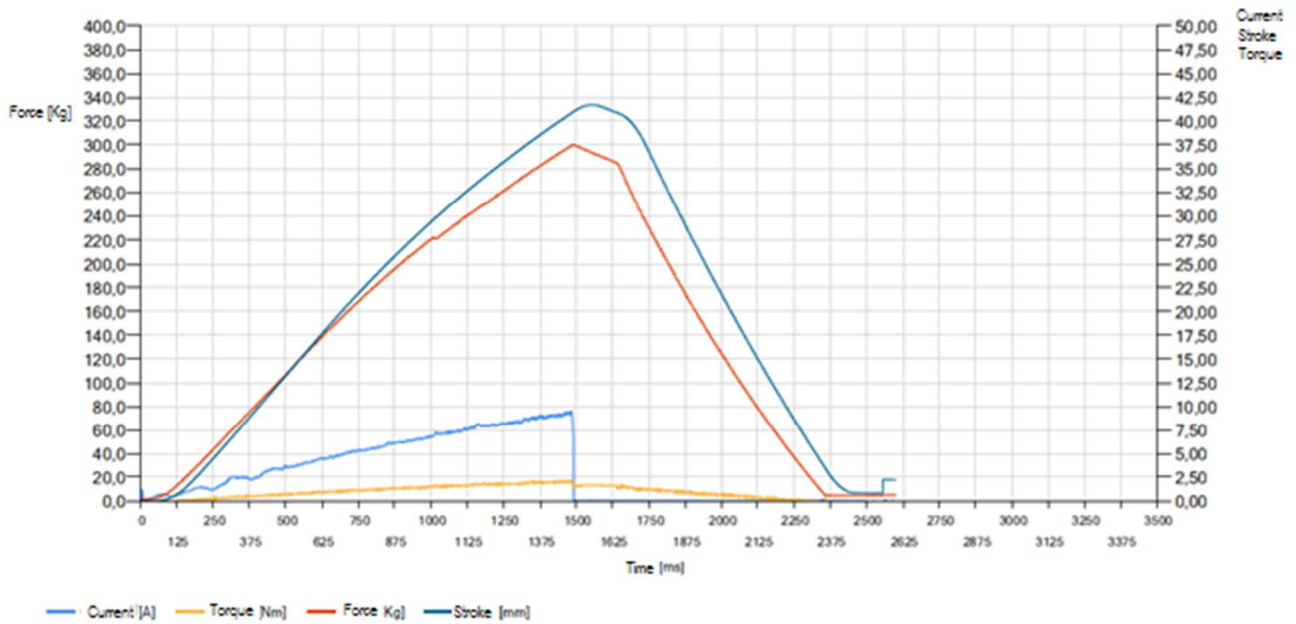

Figure 7 Magnitudes characterization
- 2- Characterization of Current/Torque/Force/Stroke as output graphics (see figure 7)